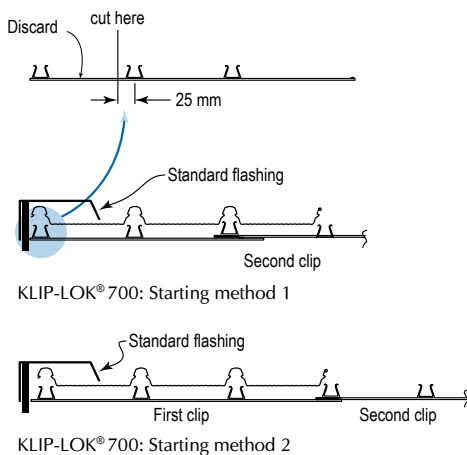

Figure 3
1. Lay wire mesh or chicken wire mesh on the purlins and weld or screw the wire mesh to each purlin (Refer figure 3).